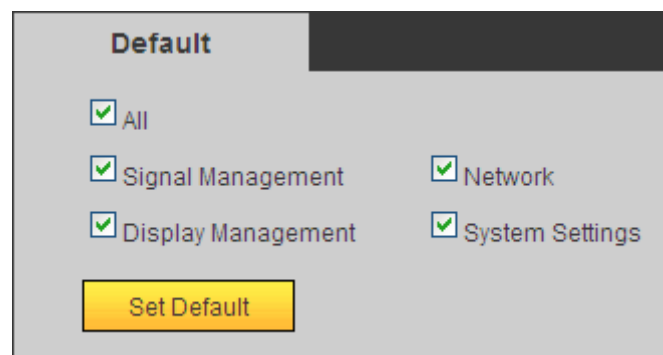

Figure 3- 30
Step 1. Select settings>system config>default. System displays Figure 3- 30.